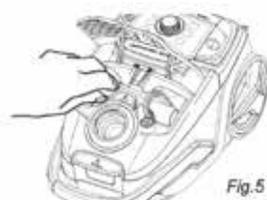

Fig.5
- The combi brush and the crevice nozzle are included in the package as accessories. You can store them in the accessory compartment when not in use (Fig. 5).